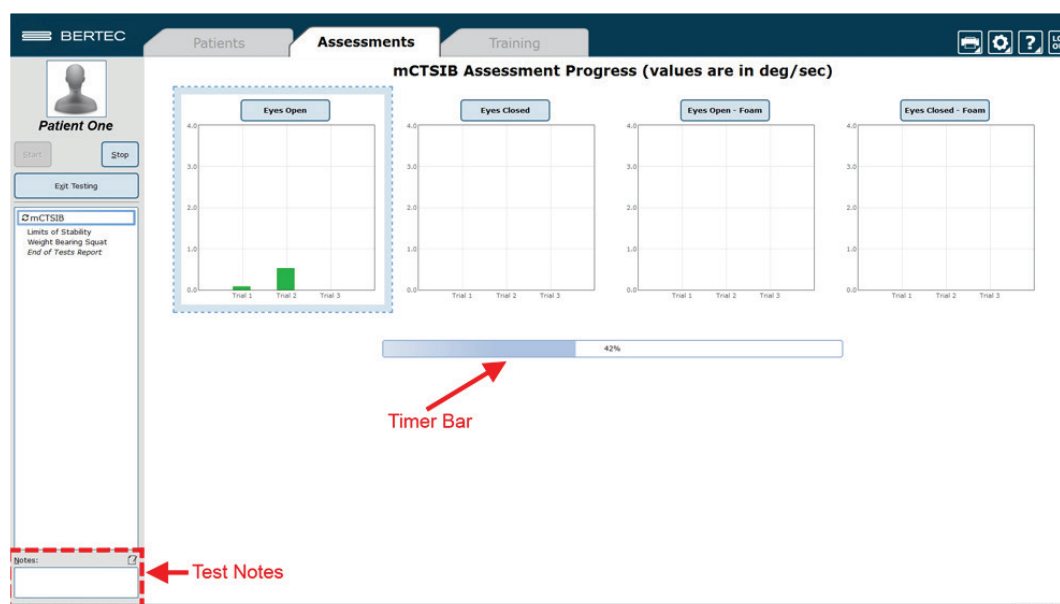

Figure 25: Clinician Screen During Assessment.
5. Perform the assessments as directed on the computer screen. At any point during an assessment, the clinician may input notes by clicking in the Test Notes area, located on the bottom left corner of the screen. Figure 25, located on the following page, shows this screen.